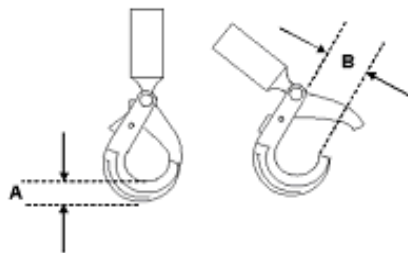

Figure 4. Shank Hook
- a. Inspect the hook for the dimensions shown in figure 4 and table 2. If dimensions exceed those in table 2, remove the swivel from service. See C Refurbishment.